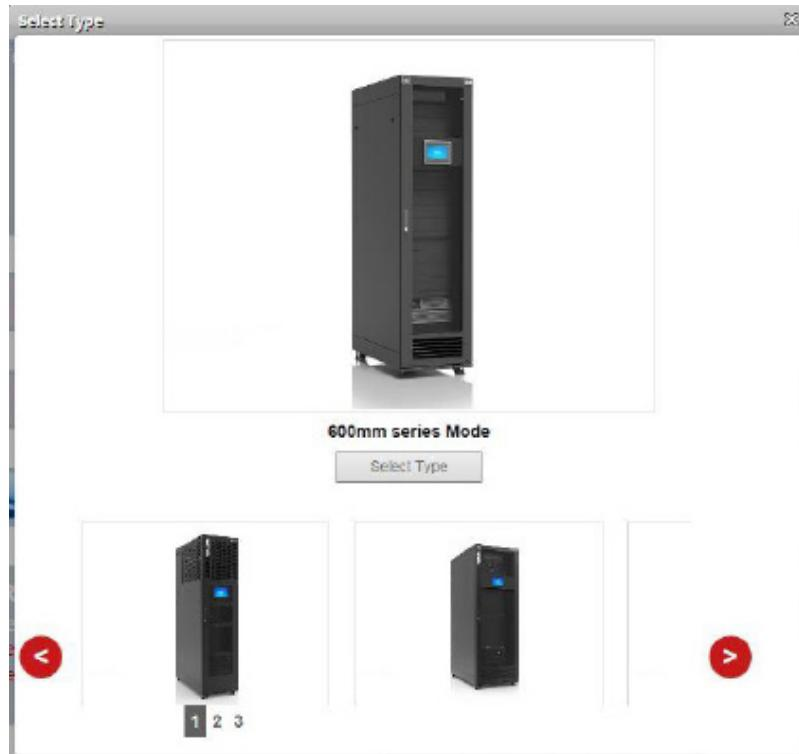

Figure 4-42 Selecting the Model Type for the Home Page
- If the Select Type button is clicked, the following screen as shown in Figure 4-42 is displayed wherein the picture of the model can be selected.
- Click the left and right icons on either side of the screen to select the picture of the model. Click on the picture followed by Select Type button to select the specific picture following which the Home Page will display the background picture. The screen to select the picture of the model is shown in Figure 4-42.